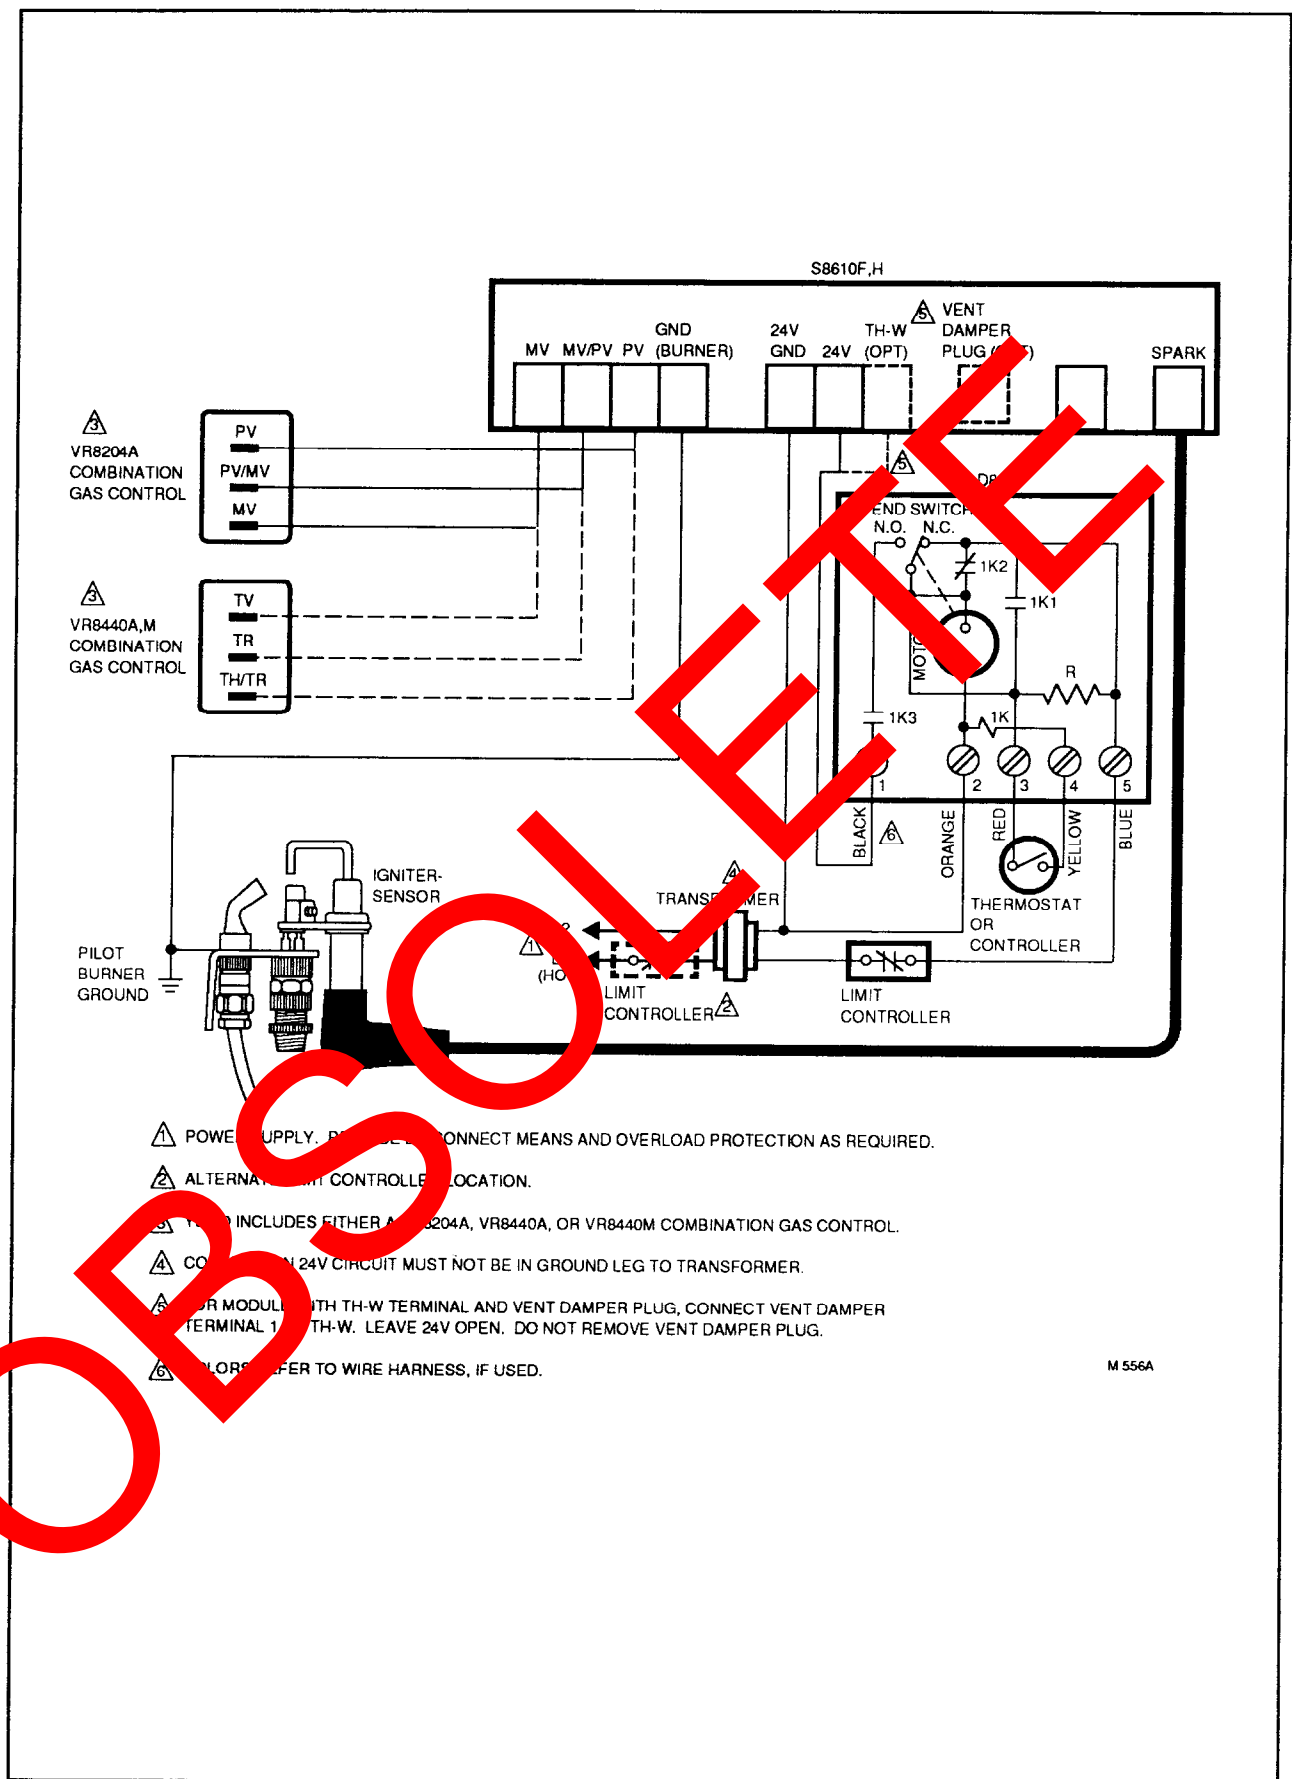

FIG. 16—Y8610 IN A TYPICAL FAN ASSISTED COMBUSTION BURNER HEATING SYSTEM.
- Fig. 16 shows a heating only system with a D80B Vent Damper.